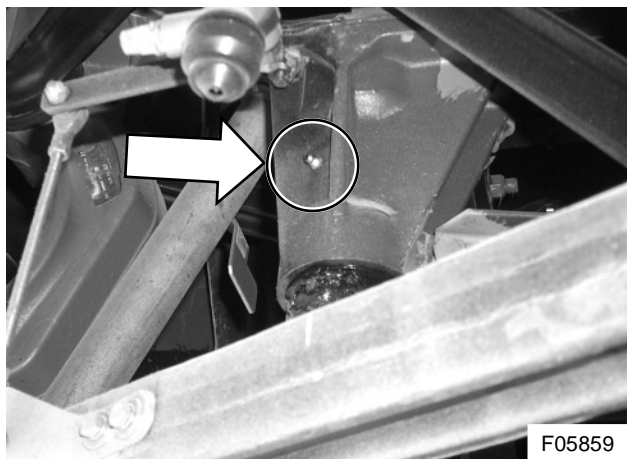

Figure 1: Steering linkage idler arm # VH R0 10538746 with grease nipple location shown
- Owners and operators of the above-mentioned coaches are requested to check whether the steering linkage idler arm has been equipped with a grease nipple (see Figure 1).